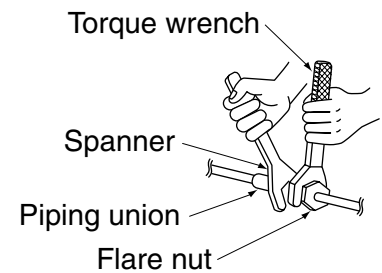

Fig. 12
• Be sure to use both a spanner and torque wrench together, as shown in the drawing, when connecting or disconnecting pipes to/from the unit. (Refer to Fig. 12)